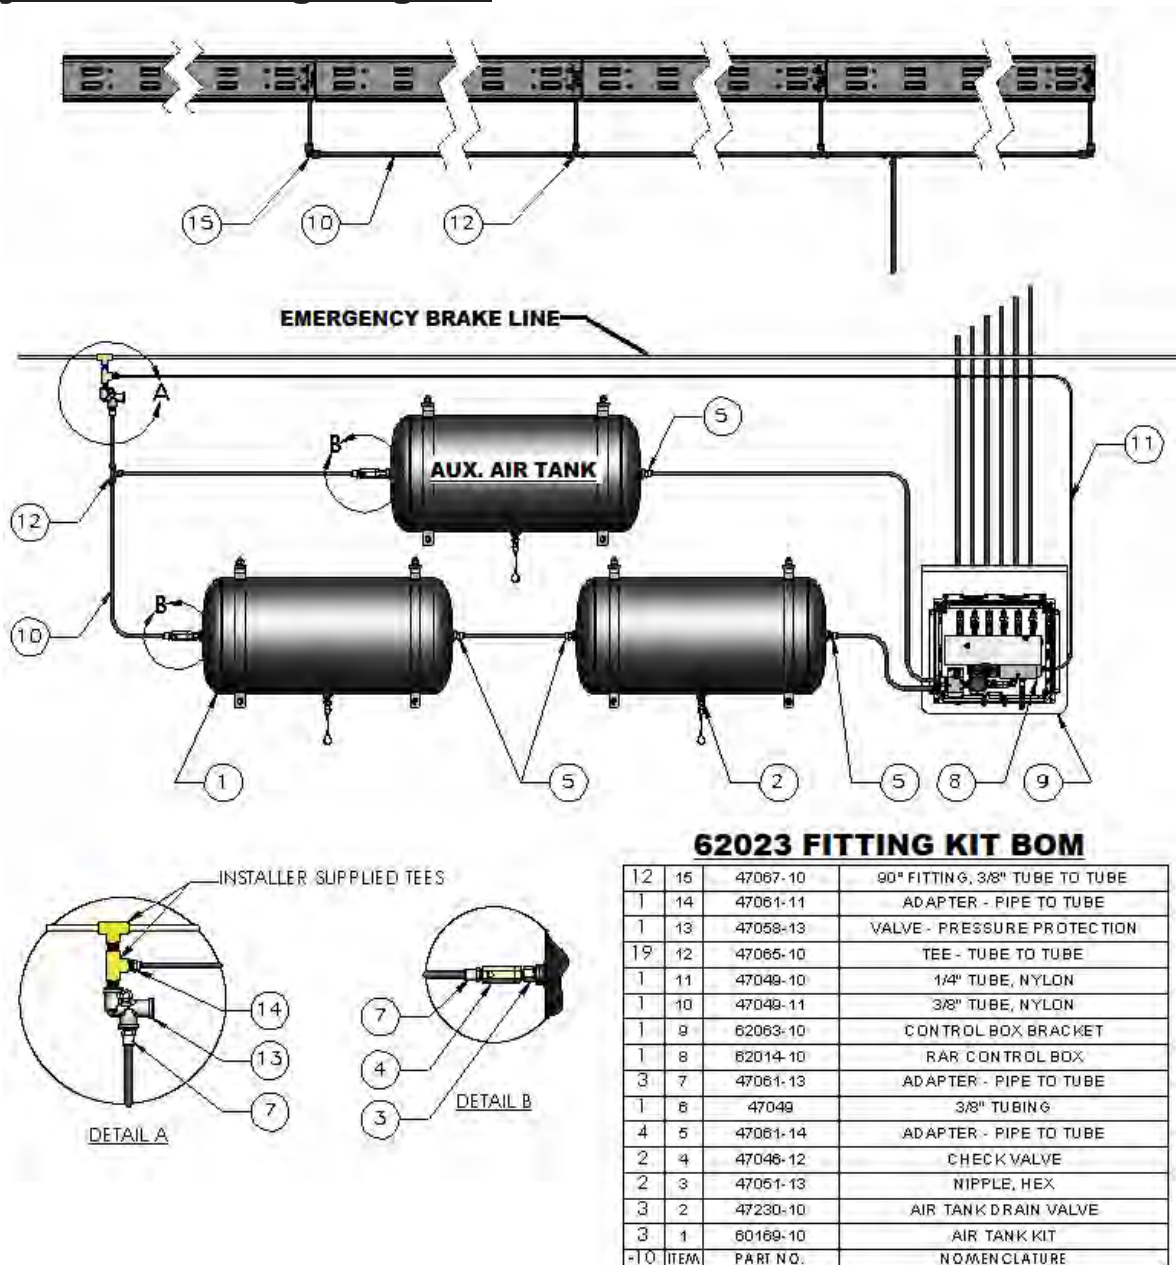

Figure 4.8 Plumbing Diagram
- To prevent leaks, make sure that all tubing is fully installed into fittings. Refer to fig. 4-8.
Connect the RAR system to the Emergency Brake Line using the fittings provided by the Installer. Attach the appropriate "T"-connectors and an adaptor attaching the T-connector to the pressure protection valve. Installation locations are shown on figure 4-8.